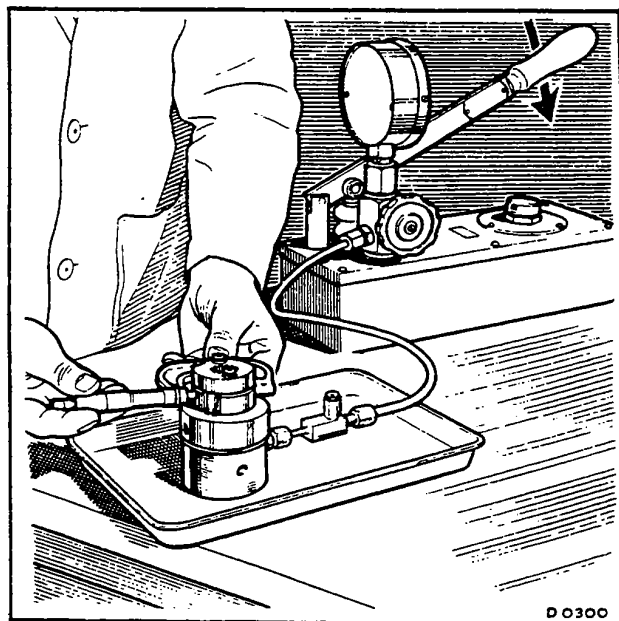

Fig. 2
40. Set the roller-to-roller dimension at the figure given in Data, using tools 18G 653 A (preset at 15 atmospheres) and 18G 109 A as shown in Fig. 2.